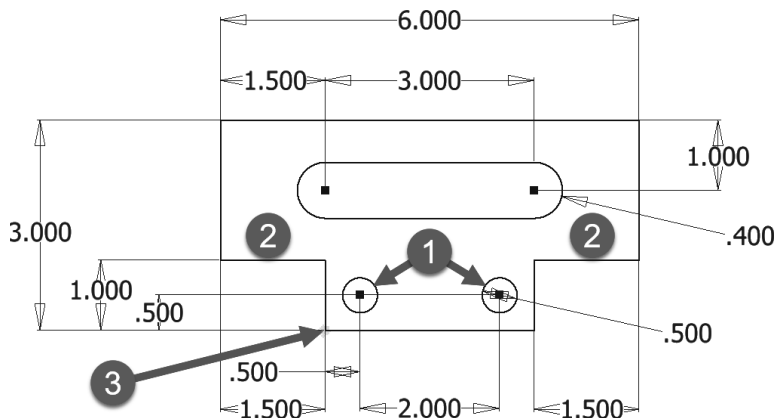

Figure 2.94
**14** Apply a horizontal constraint between the center points of the two circles labeled (1) in Figure 2.94.
**15** Apply a collinear constraint between the two middle horizontal lines labeled (2).
**17** The sketch is free to move. To constrain the sketch to the origin, drag the lower-left corner of the sketch labeled (3) in the following image to the origin point of the sketch (0,0). Or you could add a coincident constraint between the origin point and the left point on the bottom line.